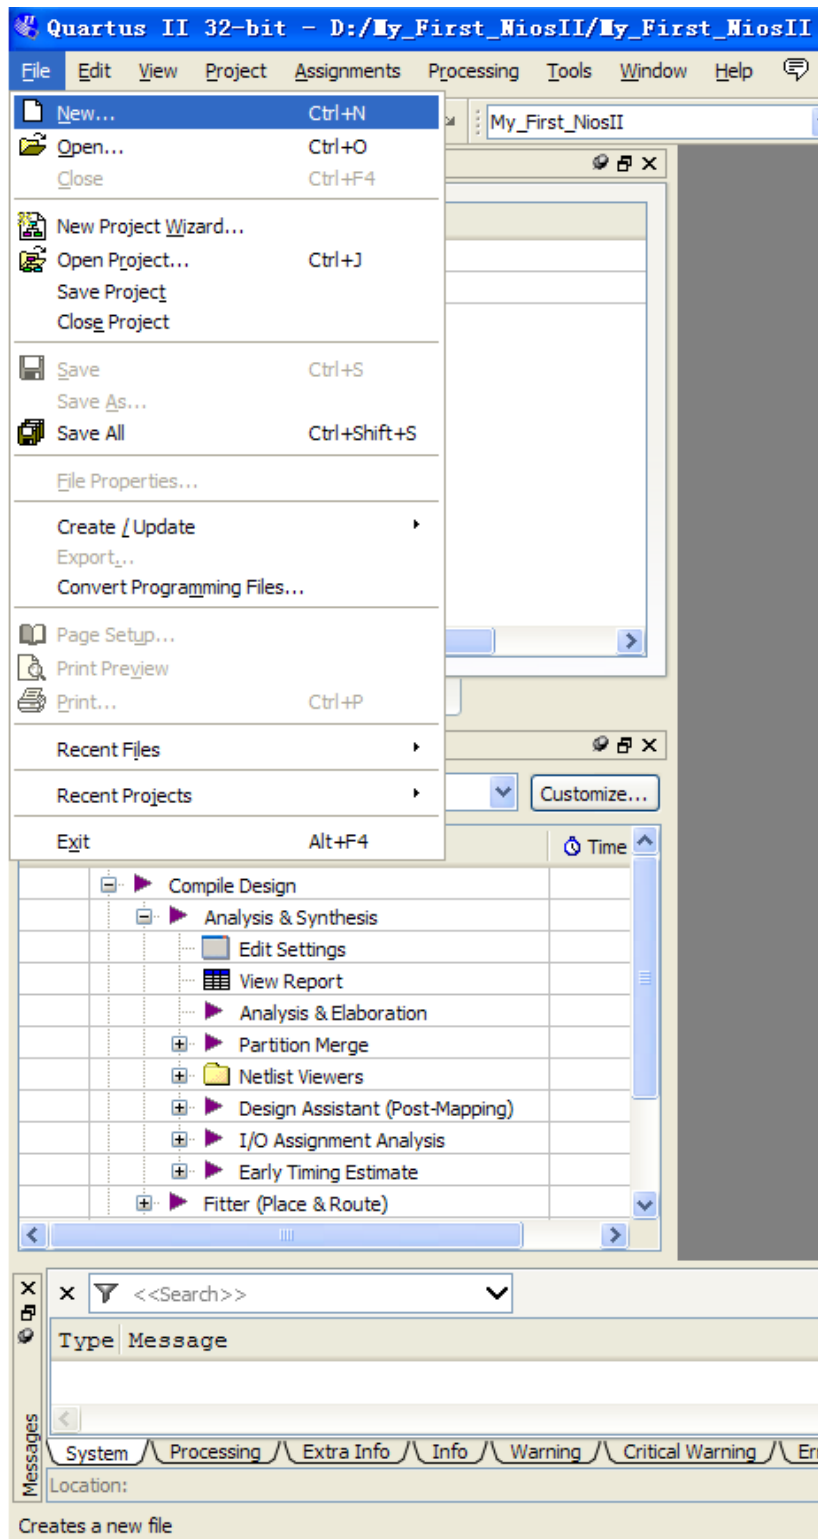

Figure 1-51 New Verilog file
32. Choose **File > New** to open new files wizard. See Figure 1-51 and Figure 1-52.